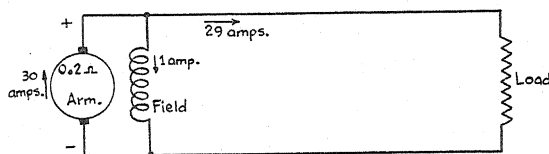

FIG. 77. Terminal voltage is always lower than generated e.m.f.
Suppose, for example, a certain generator armature actually generates 150 volts. Now suppose the armature resistance of this machine is 0.2 ohm, and the machine is delivering 30 amperes from its armature. These facts are shown in Figure 77.
2. Self-excited generators — where the fields always are electromagnets, "fed" from the armature of the generator itself, as shown in Figure 77. This generator is made in two common types:
a) Shunt (or parallel), where the fields are connected in parallel with the armature (Fig. 77).